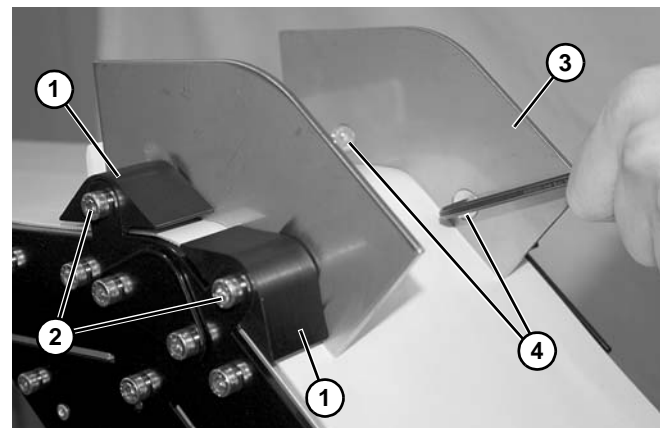

Figure 77
3. Install spacers (Figure 77, item 1) on both sides of conveyor with screws (Figure 77, item 2).
4. Install guard (Figure 77, item 3) on both sides of conveyor with screws (Figure 77, item 4).